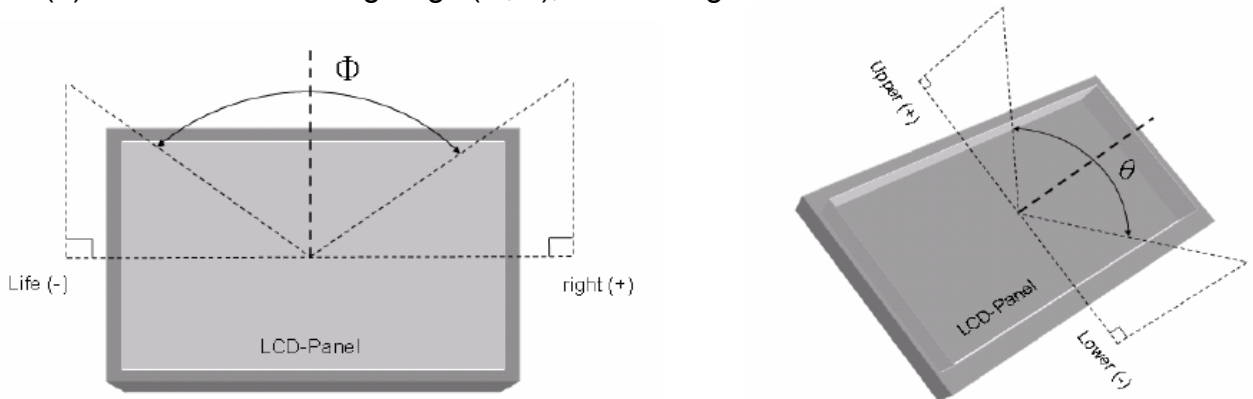

Fig9-2 Definition of Viewing Angle
- (4) Definition of Viewing Angle(Θ, Φ), refer to Fig9-2 as below :